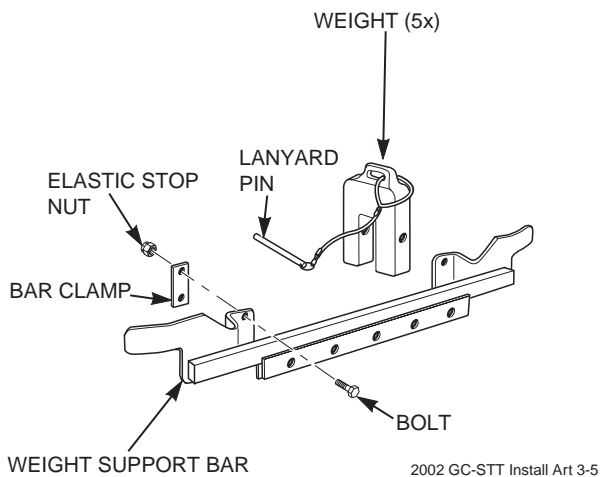

FIGURE 4-6
20. Install the weight support bar to the front of the machine by resting it directly on top of the caster support arms and sliding it tight against the frame of the machine. Secure the weight bar to the machine using (2) bar clamps, (4) 3/8-16 x 1-1/2" bolts and (4) 3/8-16 elastic stop nuts. See Figure 4-6.
21. Install the weight assemblies to the weight support bar and secure them to the bar using the 1/2"x 6-1/4" pin and lanyard. See Figure 4-6.